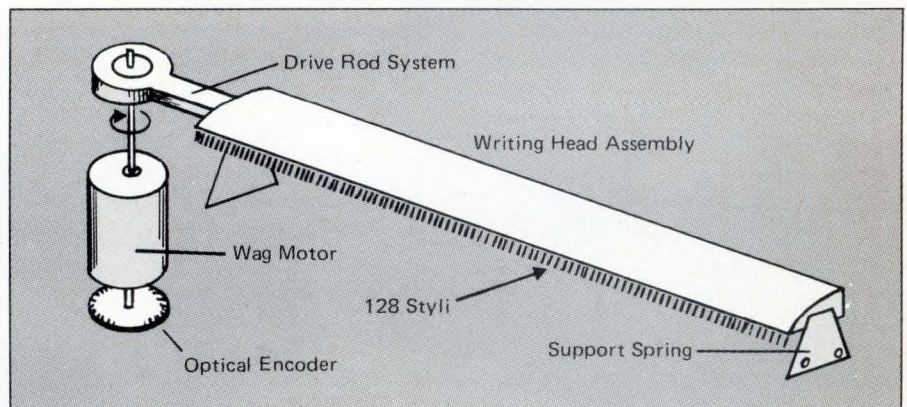

Fig. 1 CEC 912N writing head & wag system
The electric writing head assembly (Fig 1) is composed of eight stylus modules, in line, across the recording paper. Each module consists of sixteen styli, on 2mm centers, attached to beryllium copper leaf springs (Fig 2). A spring mount and drive rod system, called the "wag" assembly, moves the entire writing head in the direction of the line of styli to a displacement of 2mm. An optical encoder senses 16 equidistant positions at 0.005 inch or 1/8mm spacing as addressable picture element locations during this 2mm "wag" movement. These positions are sensed in both the left-to-right and the right-to-left scan directions. The encoder supplies direction and location status information to the data controller so that the proper time duration TTL pulse can be supplied to each stylus driver. Upon receipt of a TTL pulse, an electric arc of -160 V dc travels from each stylus through the carbon impregnated paper and to the grounded backup roller. In its travel, the arc burns a precise amount of coating from the paper surface revealing the carbon black base color. A pulse duration of $215\mu\text{sec}$ defines the 15th scale level, or black. Lesser amounts of time produce smaller burn areas, thus, lighter shades of gray. Sixteen (16) distinct levels of gray are possible in this system. Thus, the overall picture is produced by $16 \times 8 = 128$ styli \times 16 positions each = 2048 picture elements over the 10.1 inches printing width. Each picture element has its own 16 level gray scale assigned when printed. Between wag directions and after each picture line is printed, the paper is incremented forward by a distance of 0.005 inch (1/8mm). The overall pic-